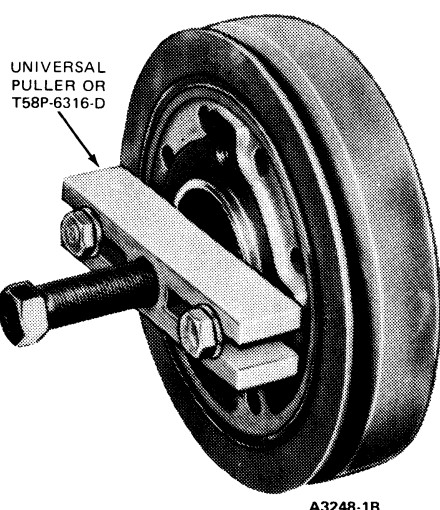

FIG. 20 Removing Crankshaft Vibration Damper
8. Remove bolt and washer attaching crankshaft damper. Remove crankshaft damper with a puller (Fig. 20). Remove Woodruff key from crankshaft.